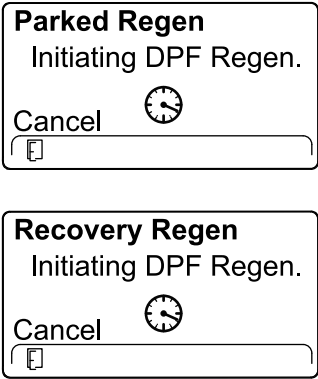

Figure 59
5. The InfoCenter displays the INITIATING DPF REGEN message (Figure 59).